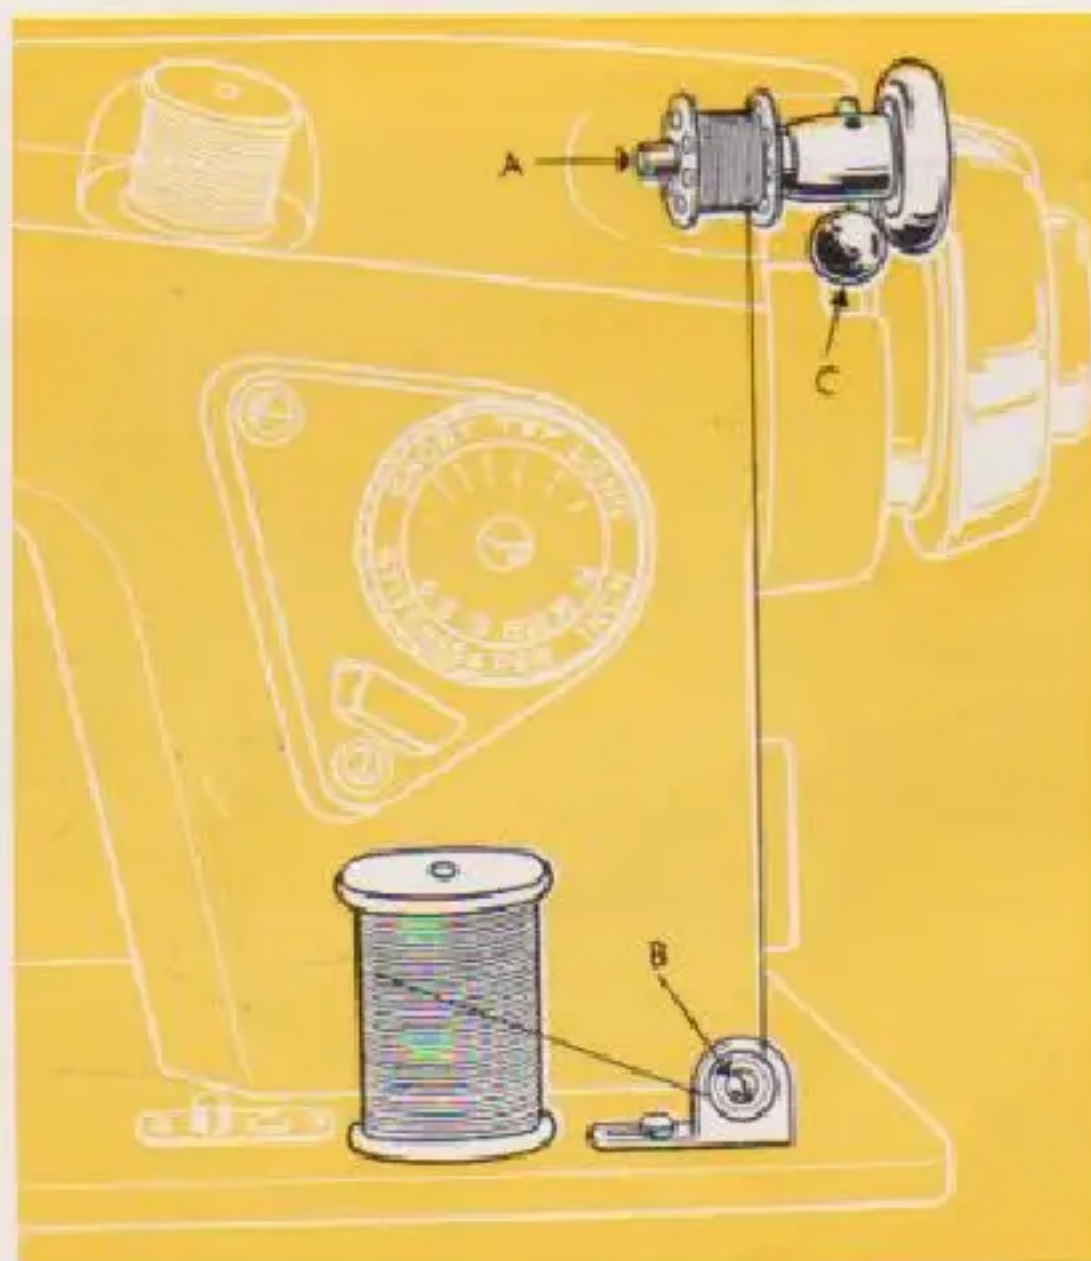

Figure 6
Wind the free end of the thread several times round the bobbin and press it onto the spindle (A), passing the thread through the tension bracket (B) as shown in Fig. 6.